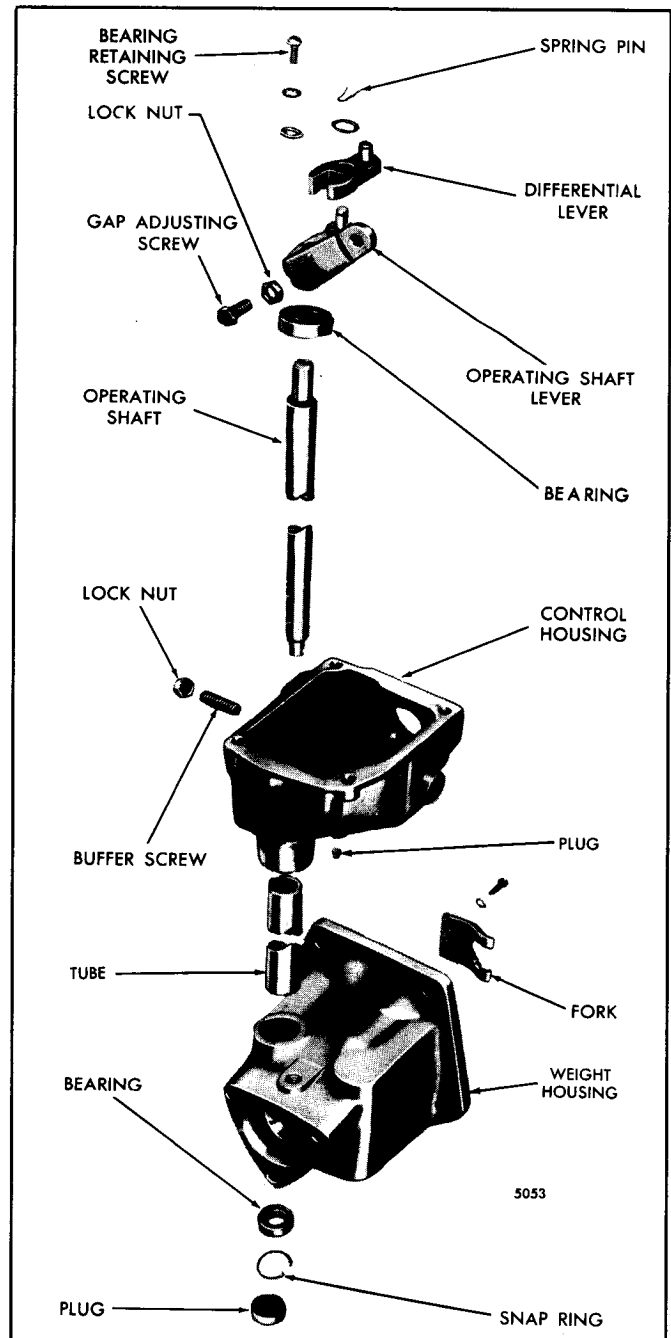

Fig. 9 - Governor Housing and Relative Location of Parts
2. Install the lower governor operating shaft bearing, with the number side facing out, in the weight housing (Fig. 9). Install the snap ring to secure the bearing. Lubricate the bearing with engine oil.
9. Place the differential lever over the pin in the governor operating shaft lever (Fig. 9). Secure the lever in place with a washer and spring pin.